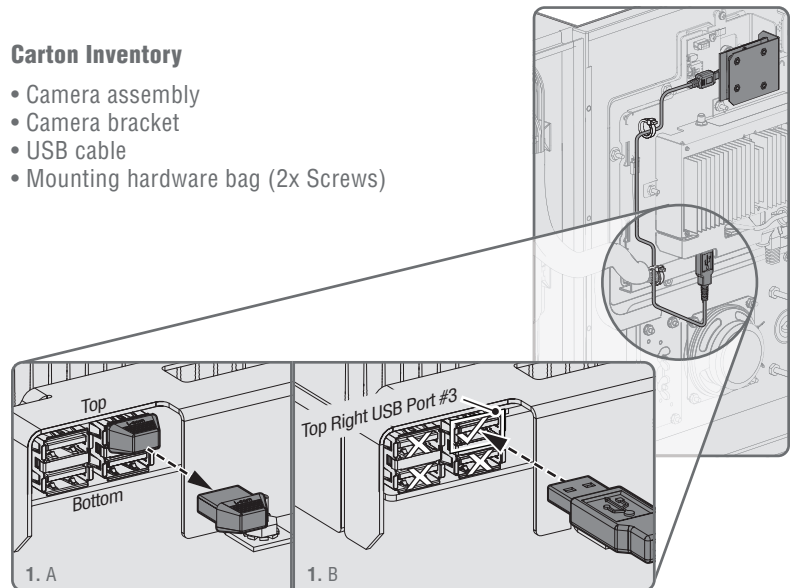

Figure 1. Removing the dummy USB and connecting to USB Port #3 on the upper right side of the controller.
5. Use pliers to unplug the upper right dummy plug from USB socket on control board (controller). (Figure 1.A)
6. **USB PORT #3 MUST BE USED** to connect the camera. The Micro USB end of the USB cable goes into the camera and the standard USB end of the cable specifically connects to USB port 3, (the upper right USB port on the controller.) (See Figure 1.B)